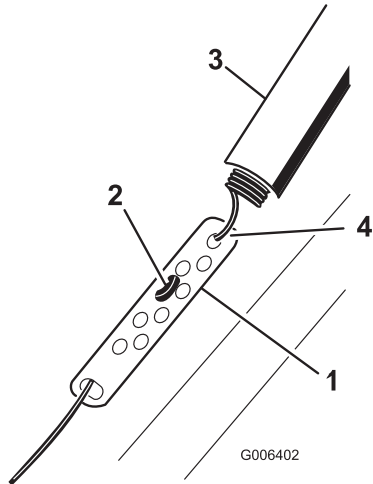

Figure 10
1. Slide up the spring cover and unhook the spring from the adjuster link (Figure 10).
2. Move the Z-fitting to a higher or lower hole on the adjuster link as needed to obtain the 2 to 3 mm (1/16 to 1/8 inch) gap between the control bar and the handle (Figure 10).